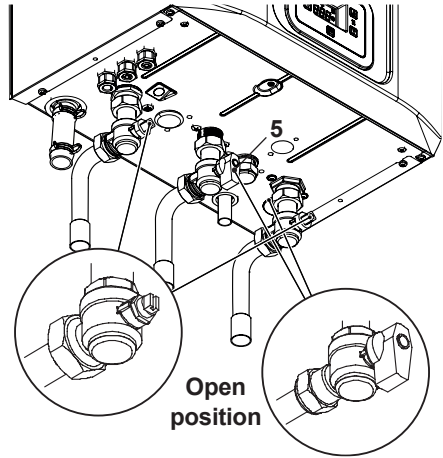

Fig. 7.1
- Inspect the entire installation including the gas meter, test for tightness and purge, all as described in BS 6891; For Ireland (IE), refer to I.S.813.2002.
- Open the gas cock 5 (Fig. 7.1) on the appliance and check the gas connector on the appliance for leaks.